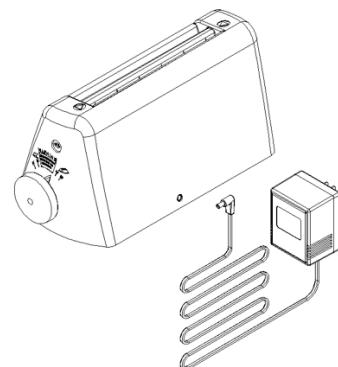

Figure 2
1. Carefully unwind the wall power supply and firmly insert the appropriate end into the connector located on the back of the paper folder (Figure 2).
6. After the jam has been cleared, close the dejamming door (if open), and return the dejamming handle to its storage location on the bottom of the folder. Reconnect the wall power supply (Figure 2).